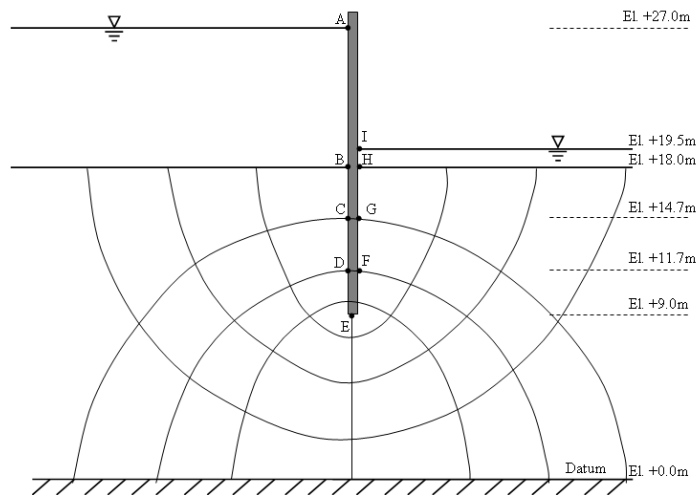

Fig.4
- (c) A sheet pile wall (Figure 4) is driven into a silty soil having co-efficient of permeability of  $0.5 \times 10^{-6}$  cm/sec. The length of the last element is 3.45 m. Find the pore pressure at points B, C, F and H.